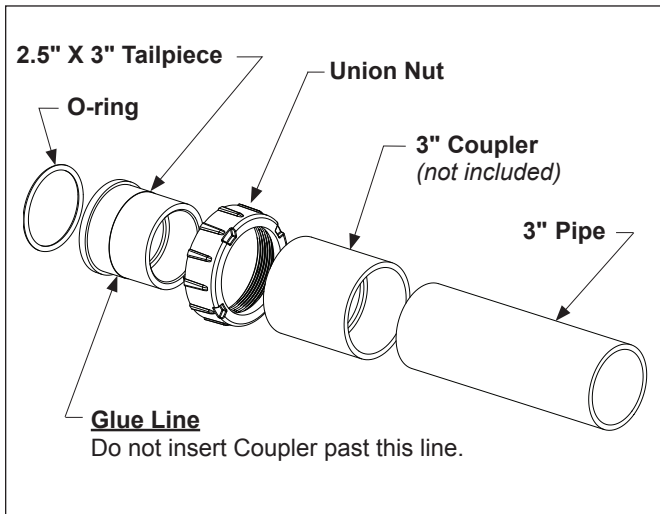

Figure 5. 2.5" X 3" Assembly Shown Connecting a 3" Schedule 40 Pipe
- For 3" pipe size, attach a 3" coupler (not included in the kit) onto the tailpiece. When gluing the coupler to the tailpiece, do not insert the coupler past the glue line (approximately 1½"). Attach the end of the 3" pipe to the other end of the coupler as shown in Figure 5.